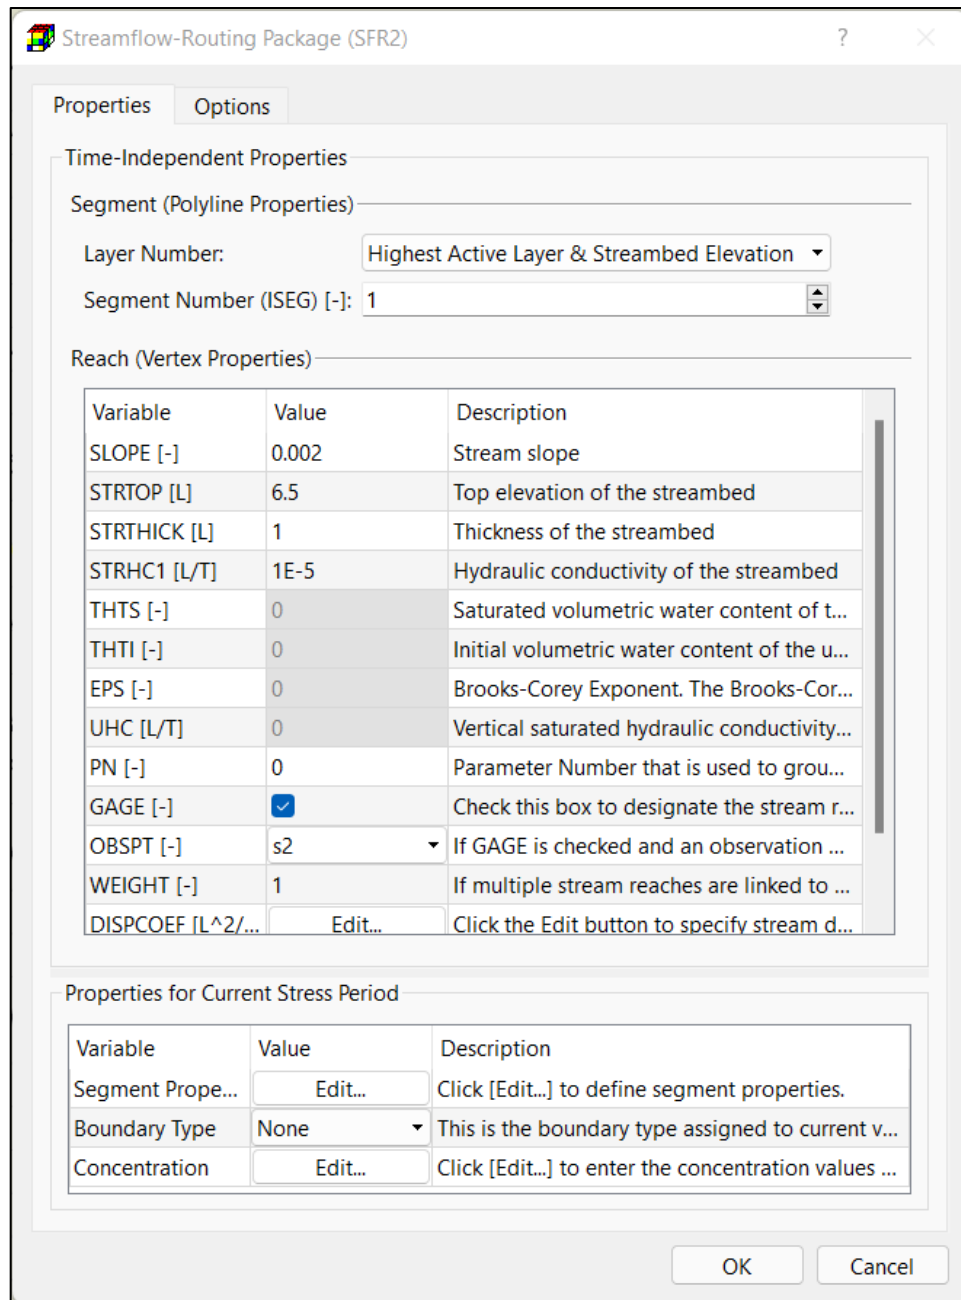

Figure 94. The Streamflow-Routing Package (SFR2) dialog box for specifying vertex properties
3. **Polyline input method:** Figure 94 shows the Properties tab of the Streamflow-Routing Package (SFR2) dialog box. The required data are organized in two groups as described below. Once the vertex data are specified, they may be interpolated and applied to model cells following the rules described in Section 3.4.2.2. Note that the specified values of GAGE, OBSPT, and WEIGHT only apply to the stream reach at the vertex location and will not be interpolated to reaches between vertices.